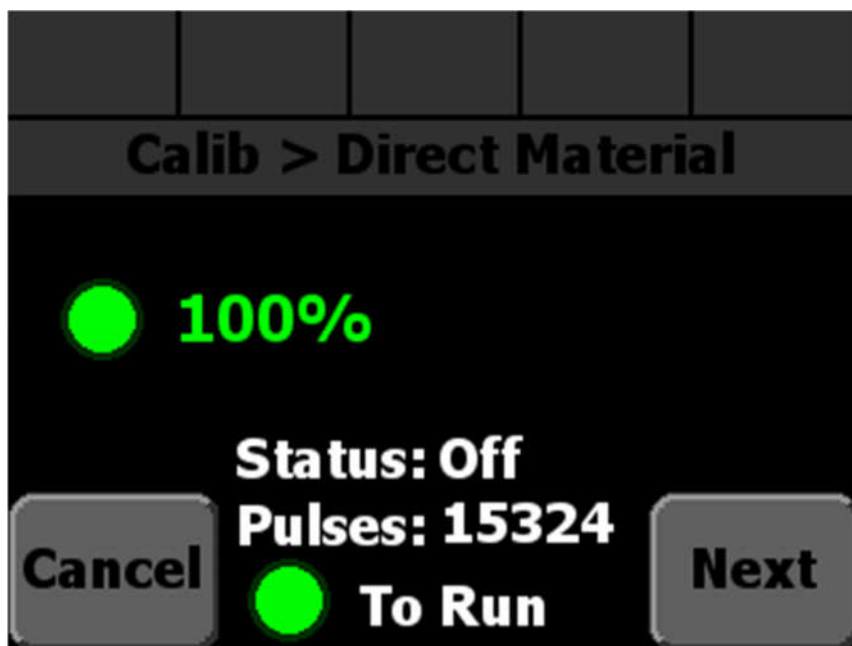

Figure 11: Direct AutoCal Screen after running
- STEP 11: Press the green, Standby knob to stop dispensing liquid. The status should change to "Off", as shown in Figure 11. If your system is an Open Loop system the pulses will be 0.